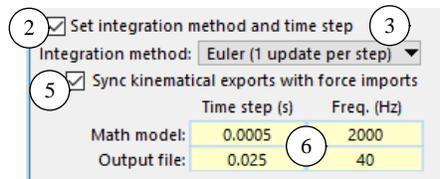

Figure 19. Options available when the Euler method is selected.
The drop-down list control provides a choice among six options for performing numerical integration (3). Right-click to see a short description of the options (4). The option used most is the AB-2 method, with a time step of 0.0005s. However, this particular example involves an ABS controller that switches the brakes on and off abruptly, leading to discontinuous hydraulic pressure. When the expected behavior is highly discontinuous, the Euler method is recommended (Figure 19).